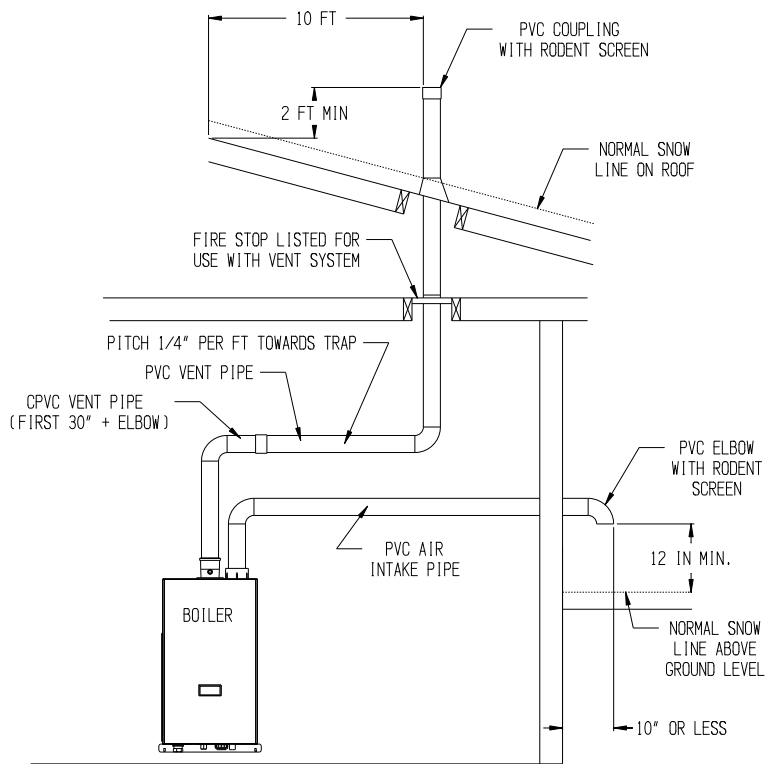

FIGURE 7.22: SPLIT RIGID VENT SYSTEM (VENT OPTIONS 25-32 - CPVC SYSTEM SHOWN IN ABOVE EXAMPLE)
2. Vent Terminal Location – Observe the following clearances from roof mounted vent terminals (also see Figures 7.22, 7.23, or 7.24):
3. Horizontal Air Intake Terminal Location - Observe the following limitations on the intake terminal location (also see Figures 7.22, 7.23, or 7.24):